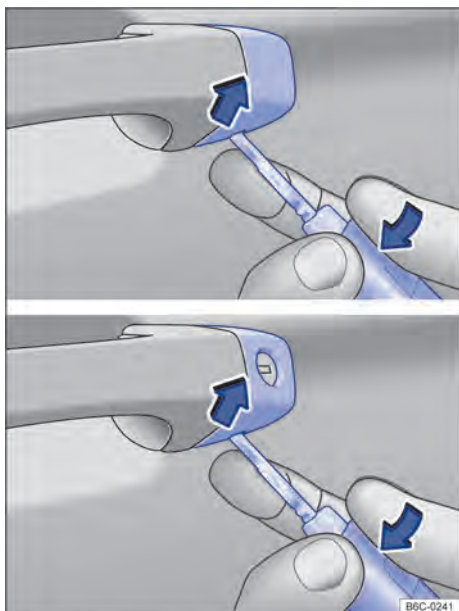

Fig. 57 Driver's door handle: remove cover.
- Lift the cover cap with the vehicle key in the direction indicated by the arrow → Fig. 57.